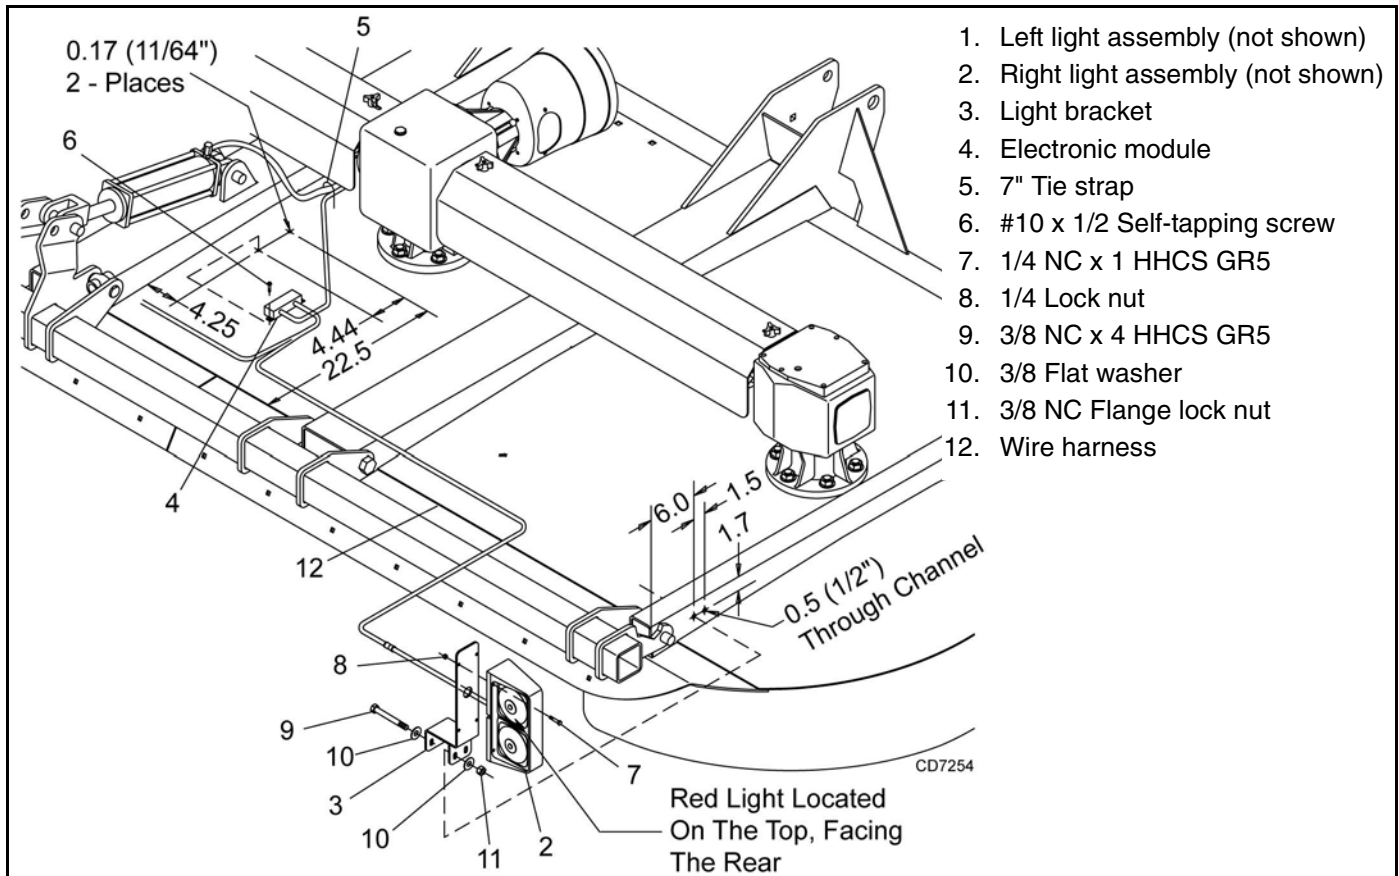

Figure 32. Light Kit Installation
1. Drill two 1/2" holes through both outer deck channels using dimensions shown in Figure 32.
3. Install electronic module (4) to deck using self tapping screws (6).
5. Install light brackets (3) on outer deck rails as shown. Secure with cap screws (9), washers (10) and lock nuts (11).
6. Secure left and right lamp (1 & 2) to brackets (3) using cap screws (7) and lock nuts (8) as shown.
7. Connect lights to wire harness (4).
8. Route main wire along hydraulic hose and secure to hose using wire ties (5).